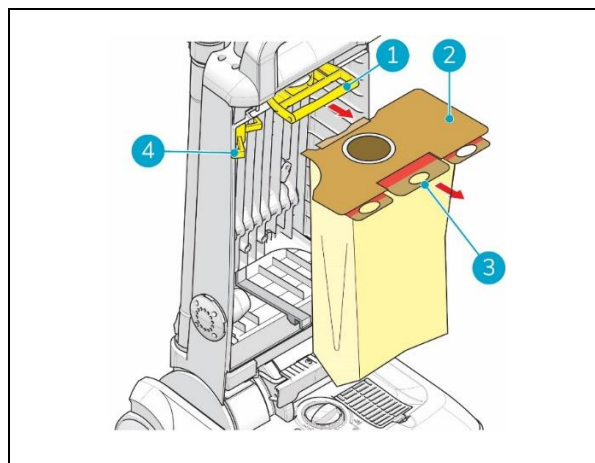

Figure 12
3. Pull out the handle (Figure 12, pos 1) until it blocks.
4. Turn the small handle sideways (Figure 12, pos 4) to push the dust bag outwards.
5. Pull the cardboard tag (Figure 12, pos 3) to seal the dust bag.
6. Remove the old dust bag (Figure 12, pos 2).